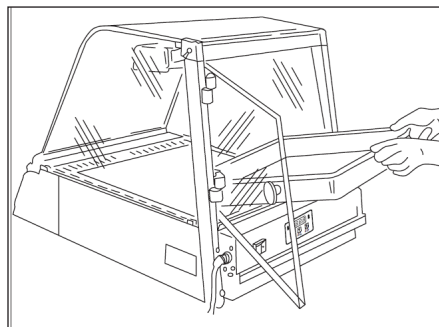

Figure 13. Loading Food (DCH-100 Shown)
5. Open the rear door and place the serving table pan(s) into the unit (Figure 13). Load the pan(s) with food using tongs or similar utensil. Close the door.